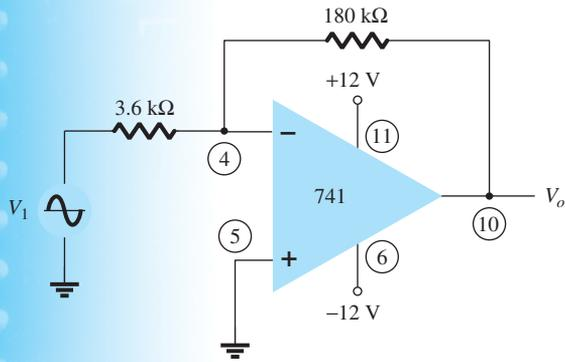

FIG. 11.47
1. Calculate the output voltage for the circuit of Fig. 11.47 for an input of $V_i = 3.5$ mV rms.